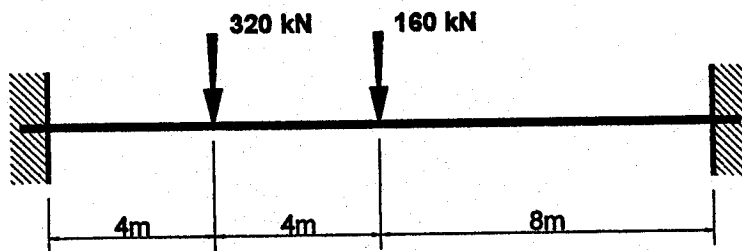

Figure Q1
- (a) The beam shown in Figure Q1 has a rigid-design moment connections at end supports A and D. The intermediate point loads (with a stiff bearing length of 50 mm) are applied through the top flange. The beam is effectively laterally and torsionally restrained at the supports and intermediate load points. Design the beam in Grade S275 steel. Ignore self-weight and the design of connections. The loads shown are factored.